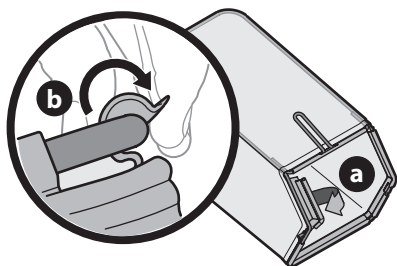

Figure 11
1. Perform the following to assemble the grass catcher (Figure 11).